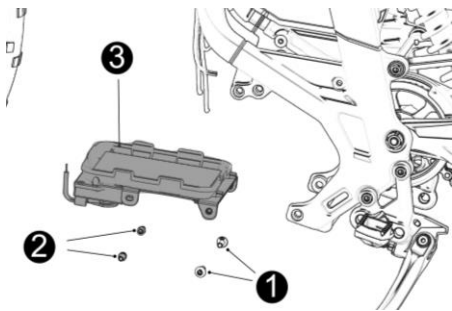

Fig 57
11.28 Dismount stop plate under battery (see Fig 57)